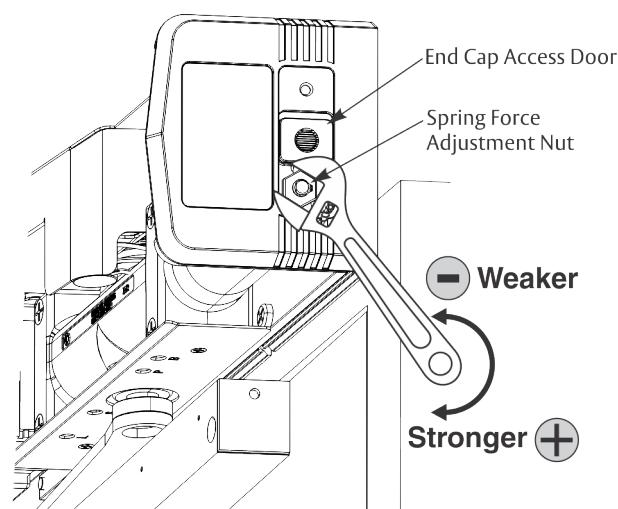

Figure 21
1. Using 11/16" wrench, turn nut in end of closer body tube to desired force. (Figure 21)
NOTE: If spring adjustment nut is too close to end cap and wrench will not reach nut, remove Torx screw in end cap access door and slide door open. When finished, slide access door closed and reinsert #6 Torx flat head screw to secure door. (Figure 21)